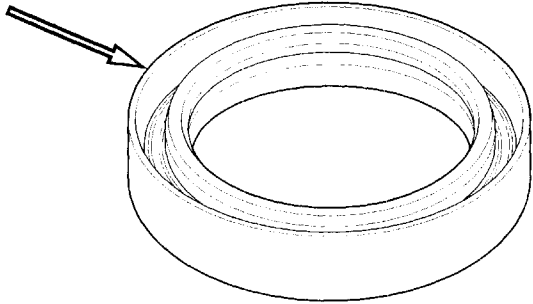
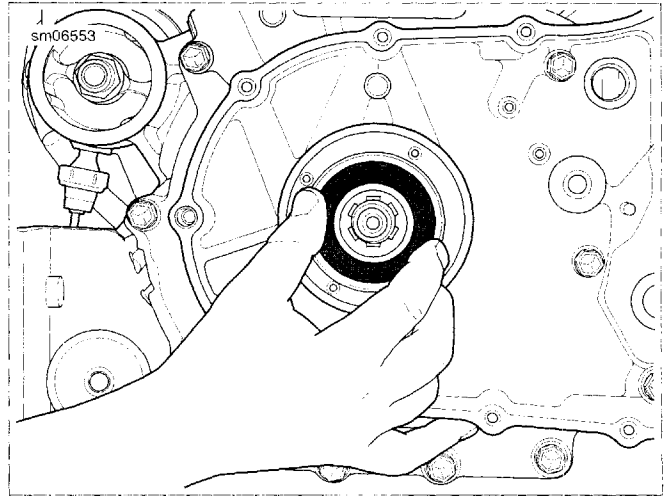

Figure 3-87. Open (Lipped) Side of Seal Faces Out
Figure 3-88. Install Spacer and Seal
- See Figure 3-87 and Figure 3-88. Install spacer in I.D. of **new** seal. With the open (lipped) side of seal facing outward, center seal/spacer assembly over bearing bore.